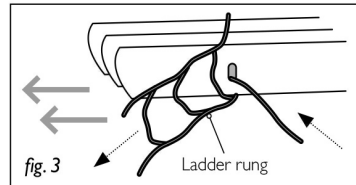

fig. 3
6.5 Count the number of slats you wish to remove. Pull the lift cord from these slats to allow them to slide out of the ladder rung and remove the required number of slats [fig. 3].